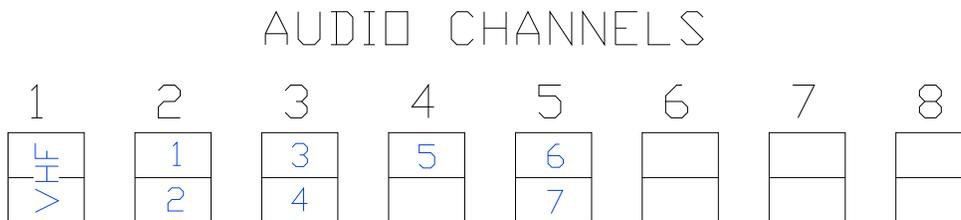

Figure 9-20 - Sample Audio Module Connections for Ship Example 1
Note in *Figure 9-20 - Sample Audio Module Connections for Ship Example 1* below that Mics 1 and 2 are connected to Channel 2, Mics 3 and 4 are connected to Channel 3, and Mic 5 is connected to the top input of Channel 4. The two (2) exterior mics (6 and 7) are connected to Channel 5. An external microphone **must not** be placed on the same channel as an internal microphone.